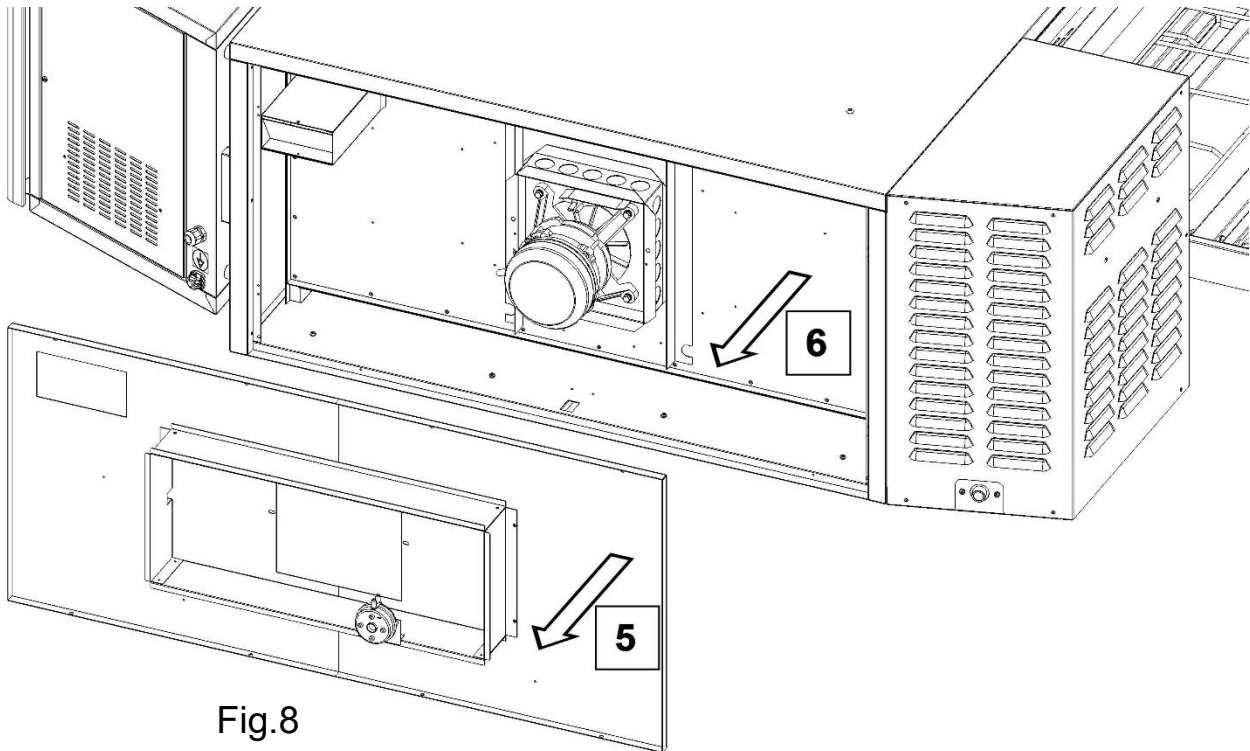

Fig.8
- 5.Remove the containment plates and the insulating material (Fig.8).
- 6.Remove the engine panel (Fig.8).
Tap and scroll the dial clockwise or anticlockwise to change the setting (Fig.8).